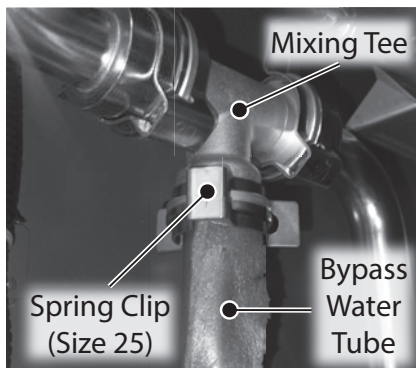

Figure 203 - Remove spring clip from bypass water tube
**15** Locate the mixing tee and bypass water tube as shown in Figure 203. Remove the spring clip (size 25) securing bypass water tube to bypass valve and mixing tee. Place spring clip aside in a safe place for reinstallation.
- Locate the new mixing tee and three (3) O-rings provided in the kit. Install the two (2) large O-rings (21.8 x 2.4) to mixing tee. Remove and replace the one (1) small O-ring (15.5 x 2.5) on the bypass water tube (mixing tee side). See Figure 203 for location of bypass water tube.